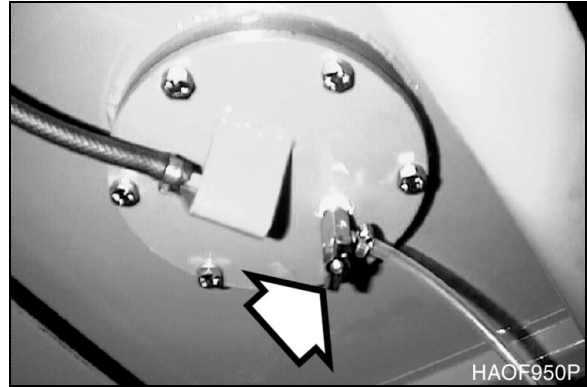

Figure 6
10. Place a large enough container under the tank to collect remaining fuel. Open the drain valve (Figure 6) at the bottom of the tank and empty the tank.